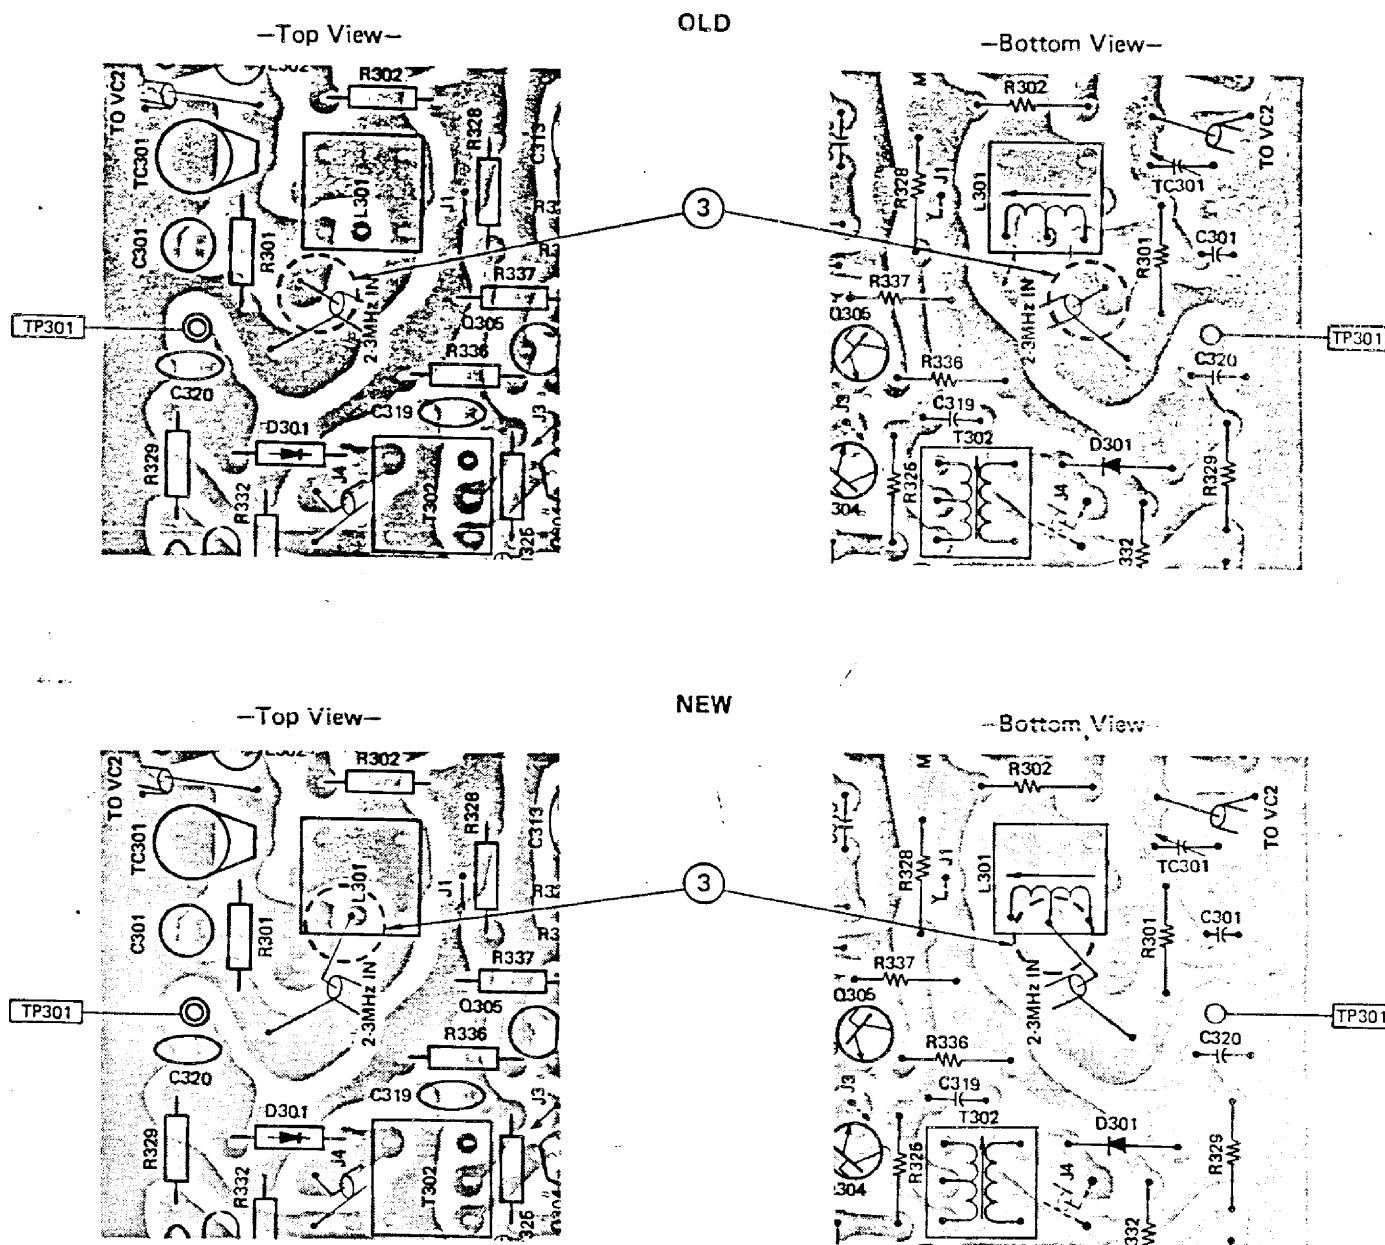

Figure 2 : IF/AF P.C.BOARD PARTS LOCATION
- At an early stage of production, coaxial lead for 2nd IF input to L301 was soldered as shown in "old" of Figure 2. If a unit with such wiring is brought in for repair/service, change the wiring as shown in "new" figure.